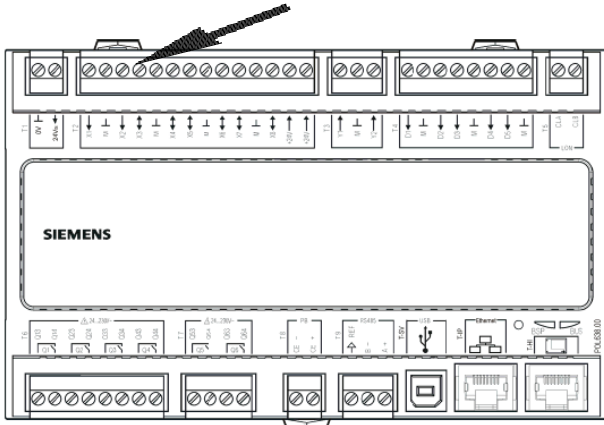

Figure 4.2 Connection of remote switch
Connect a normally open (NO) switch to terminals X3 and M, see Figure 4.2.